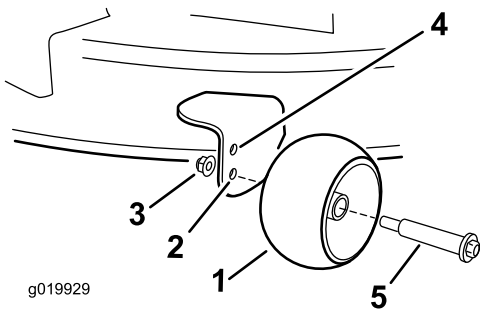

Figure 22
- Upper hole—use this position with the mower deck in the 63 mm (2-1/2 inch) and below the height-of-cut positions (Figure 22).
- Lower hole—use this position with the mower deck in the 76 mm (3 inch) and above the height-of-cut positions (Figure 22).